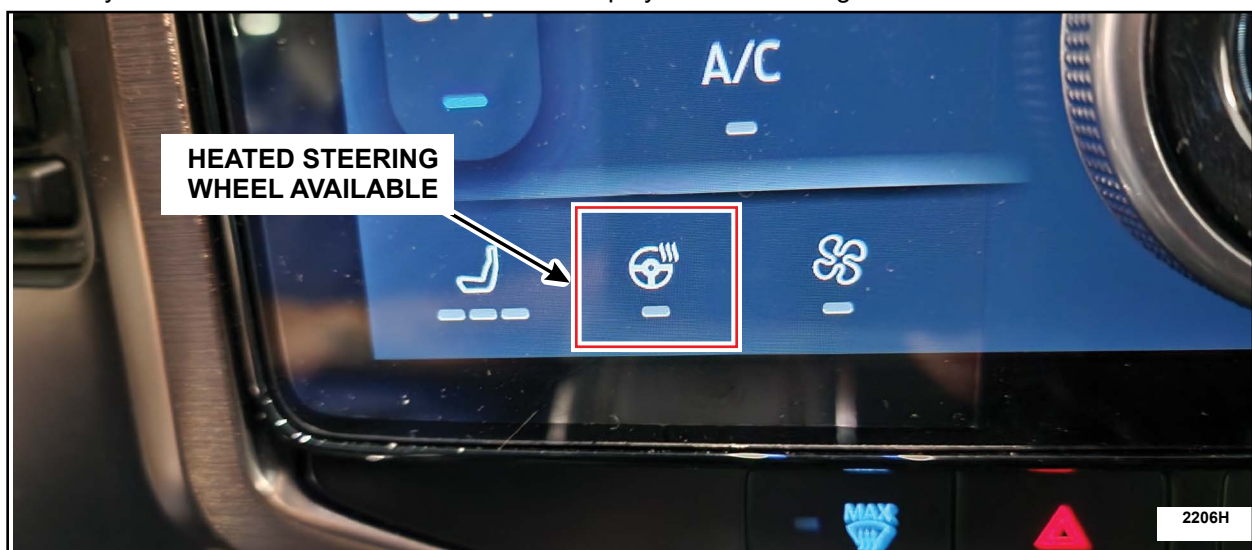

FIGURE 8
17. Verify that the soft button is available on the display screen. See Figure 8.